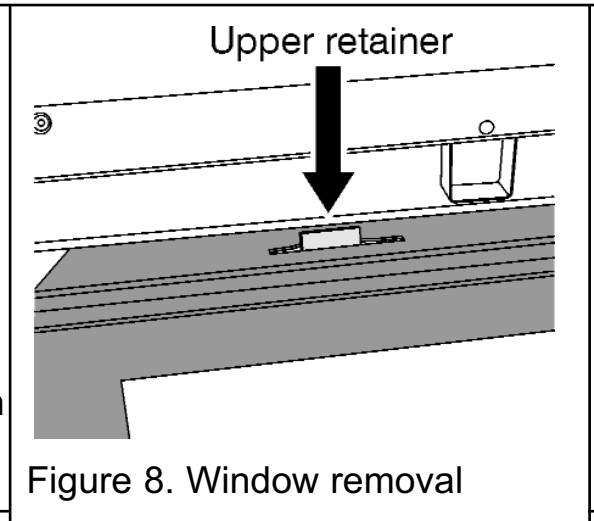

Figure 8. Window removal
3. With both clamps released, gently pull the base of the window panel forward. Hold the window panel base and lift upward until clear of the two upper window retainers (See figure 8).